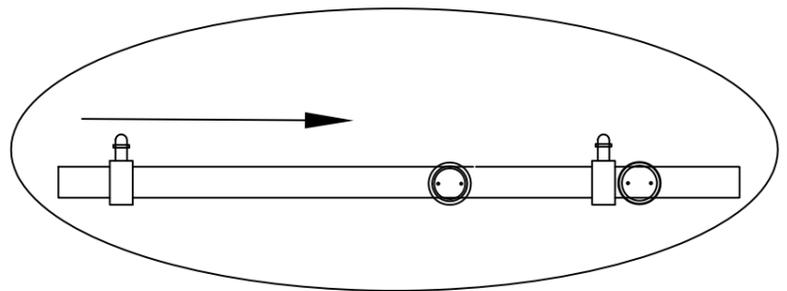

Fig. 4
- Slide Door Stopper (1) onto end of Top Rail (2). The bumpers on Door Stopper (1) should be positioned on the top of Top Rail (2) for final installation. Note: One door stopper comes pre-assembled on top rail between fixed glass bolt assembly. See Fig.4 for details.